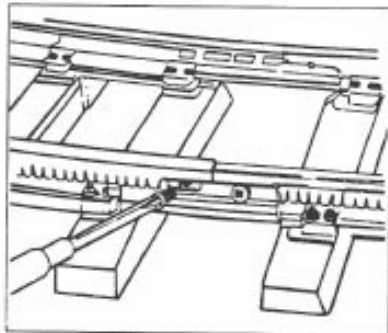

FIGURE 2
4. Position properly into pre-drilled hole in rail and tighten. See FIGURE 2.